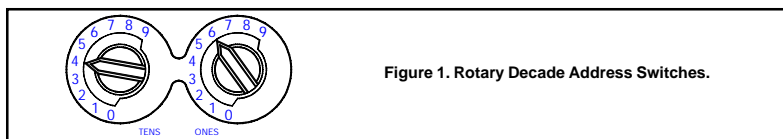

Figure 1. Rotary Decade Address Switches.
- Set the sensor address (see Figure 1) by using a flat blade screwdriver to turn the two rotary switches, selecting the desired number between 01 and 99. Record the address on the label attached to the base.